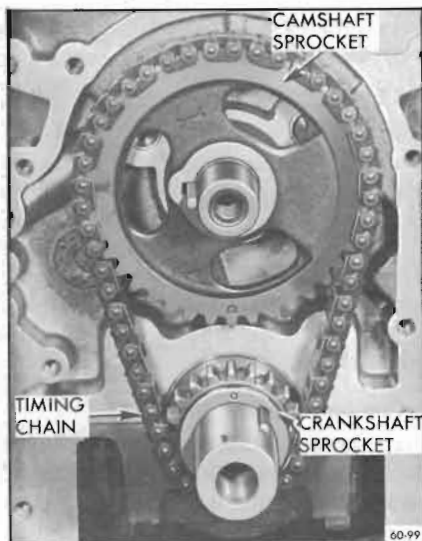

Figure 60-99—Installation of Timing Chain and Sprocket
1. With timing chain cover removed (subpar. a above) temporarily install crankshaft pulley bolt and washer in end of crankshaft. Turn crankshaft so sprockets are positioned as shown in Figure 60-99. Remove crankshaft pulley bolt and washer using a sharp blow on the wrench handle, so that the bolt can be started out without changing position of sprockets.
2. Turn camshaft so with sprocket temporarily installed, timing mark is straight down. See Figure 60-99. Remove sprocket.
3. Assemble timing chain on sprockets and slide the sprocket and chain assembly on the shafts with the timing marks in their closest together position and in line with the sprocket hubs. See Figure 60-99.